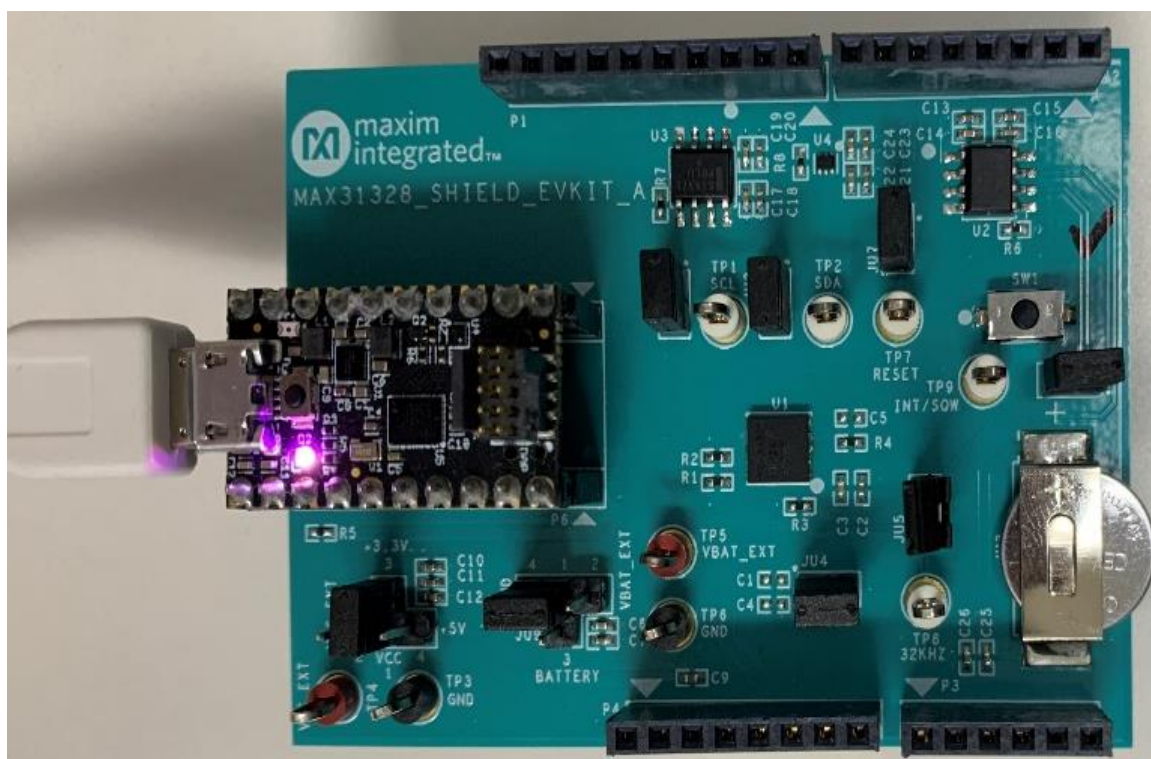

Figure 1. Connection and Setup
3. Connect the MAX32625 PICO board to the shield at the location shown as MAX32625 PICO (Figure 1).